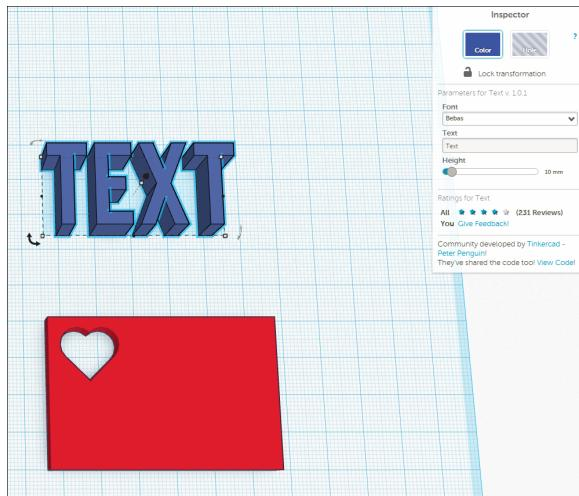

Figure 9-20. Text object on the Workplane
2. Drag the Text object out onto the Workplane as shown in Figure 9-20.